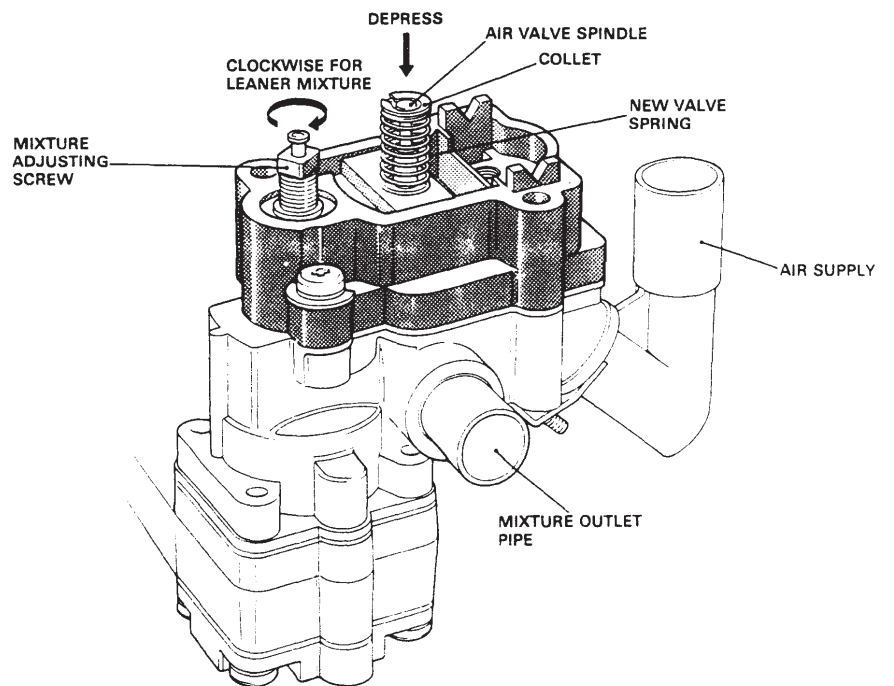

FIG 3 MIXTURE ADJUSTMENT
Referring to Fig. 3. depress the air valve on to its seat and slowly release, observing engine reaction. If the engine momentarily stalls, turn the square headed mixture adjusting screw down no more than 15°.
- (h) Refer to Fig 3: place the new valve spring, supplied with the kit, over air valve spindle and secure with collet retained in (e).